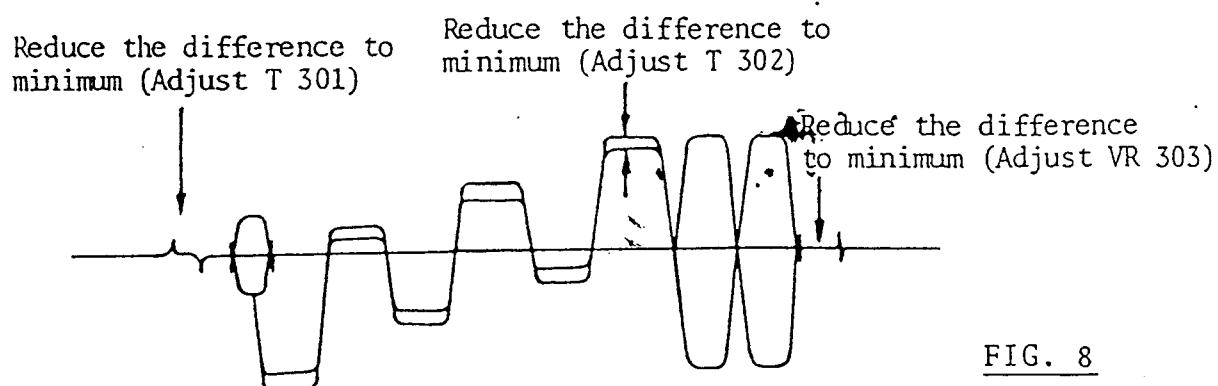

FIG. 8
5. Adjust (VR 303, T 301, T 302) to obtain the waveform as in Fig. 8.